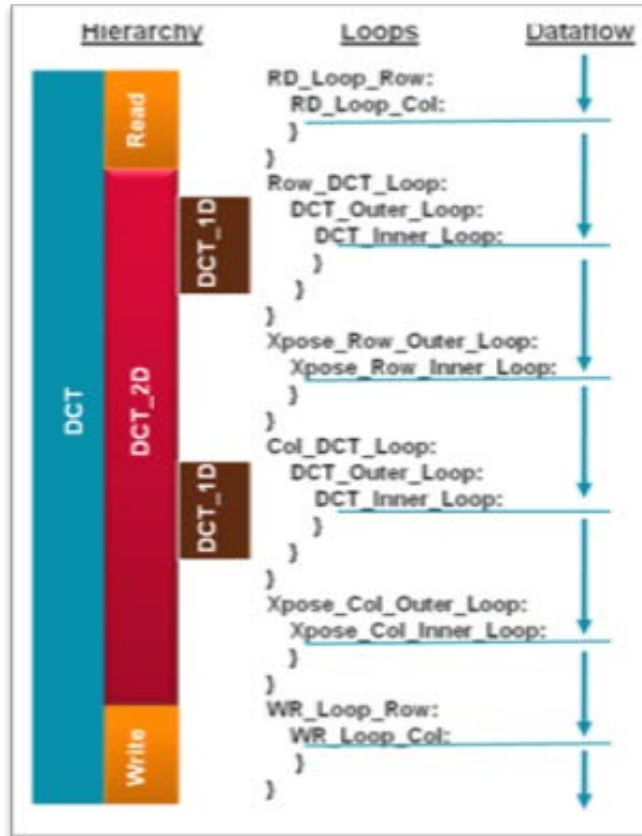

Figure 109: Overview of the DCT design
1. Double-click the file `dct.cpp` in the Source folder to open the source code for review. . This example uses a DCT function. Figure 109 shows an overview of this code.
- The right side of **Figure 109** shows the code hierarchy.
- The center of **Figure 109** shows loops inside each of the functions.
- The right side of **Figure 109** shows the how the data is processed through the functions and loops.